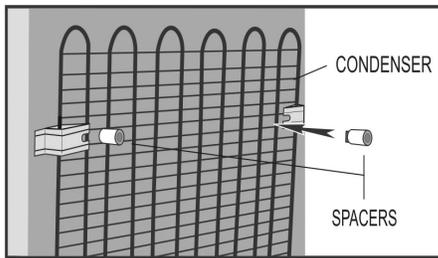

Fig 3
- Fit spacers on the condenser as per **Fig 3**.